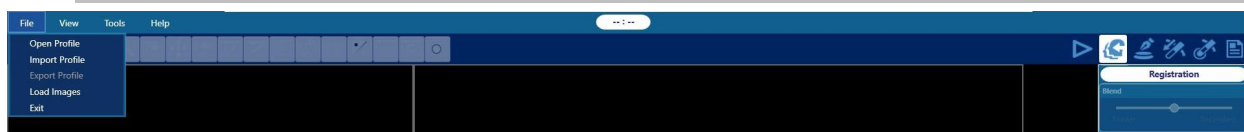

Figure 8.1.51: File Menu To Open a Plan
- Select *Open Profile* from the drop down bar under the *File* menu (see Figure 8.1.51).